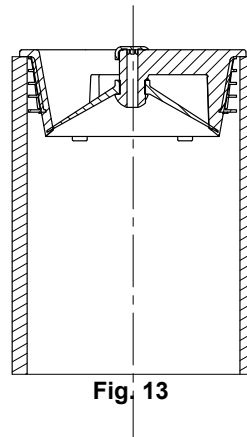

Fig. 13
- 7. For IC, IG and NPT outlet connections, make sure bottom of Z1072 is flush with top of pipe. See Fig. 13.